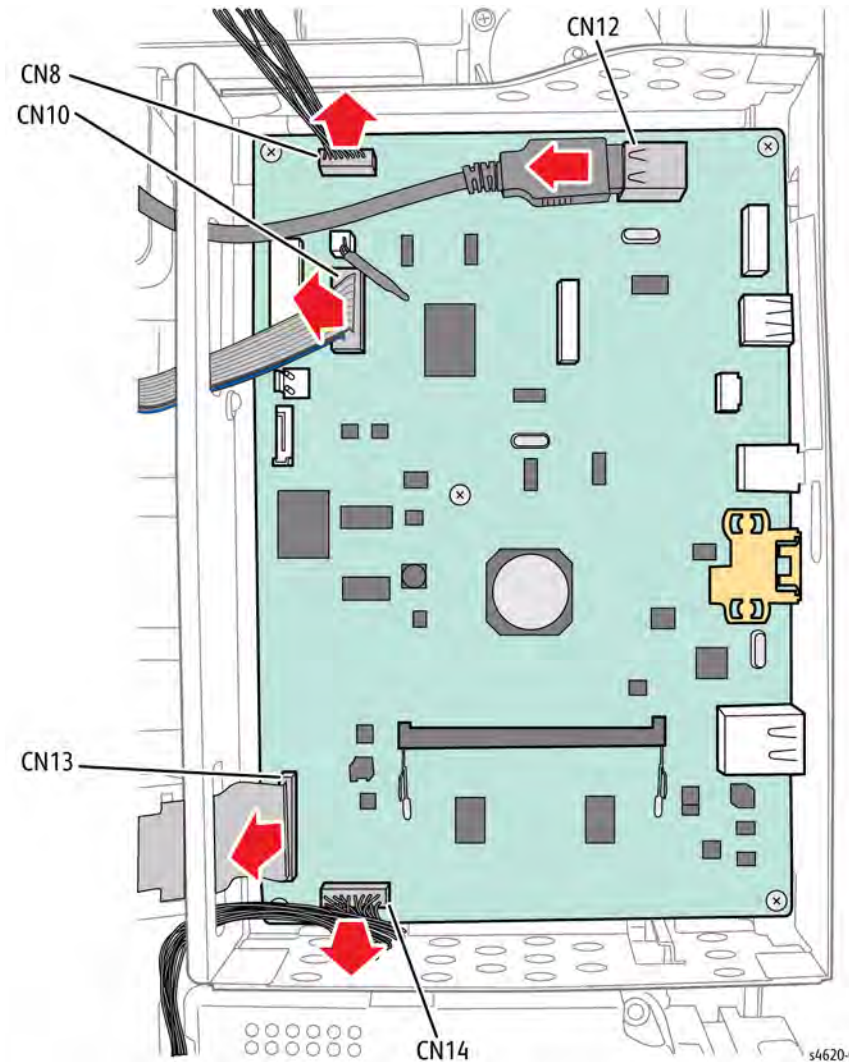

Figure 1 Disconnect the IP Board
5. Disconnect 5 connections (CN8, CN10, CN12, CN13, and CN14) to the IP Board and feed the harnesses out the holes provided, Figure 1.